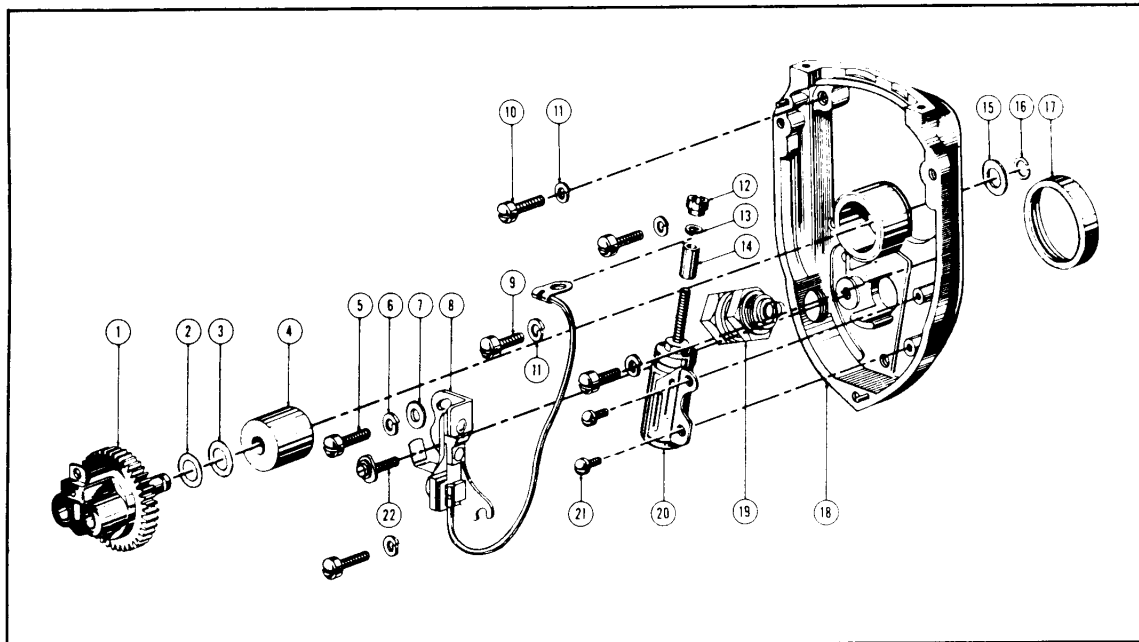
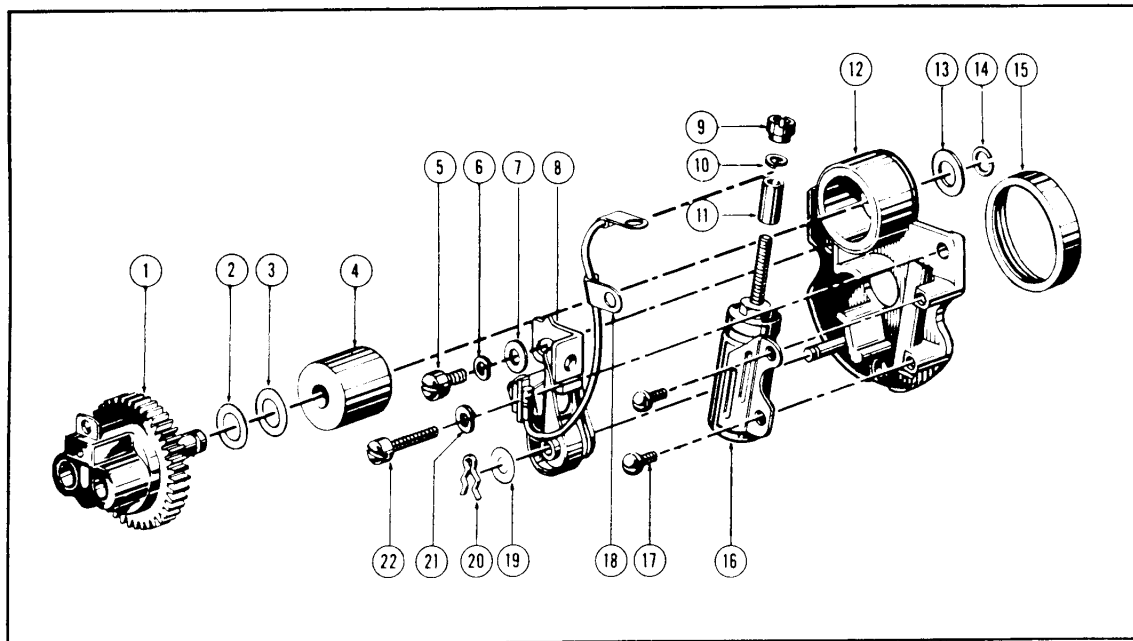
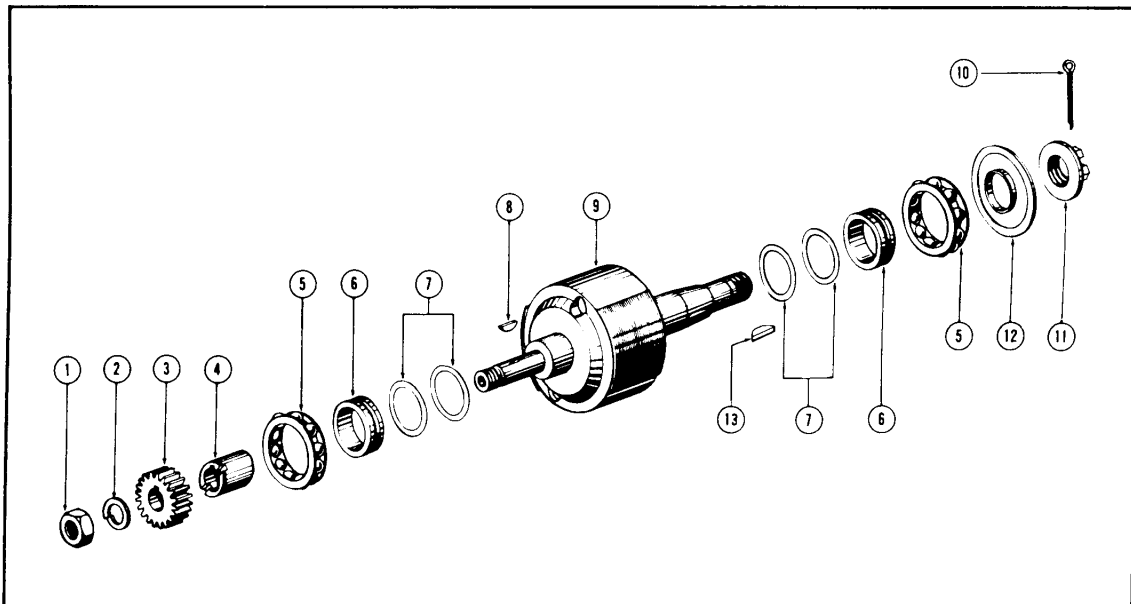

Figure 14. End Plate Assembly, LA Magnetos
Figure 15. End Plate Assembly, AM Magnetos
Figure 17. Rotor Shaft Assembly
Remove the cotter pin (10), and drive nut (11). (See figure 17). Remove the impulse starter from the drive end of the magneto by using puller tool No. H19-946. While performing this operation, exercise caution to avoid allowing the starter spring to jump free.
(See figure 17). Remove the nut (1), lockwasher (2) and pinion gear from the breaker end of the rotor shaft. (See figure 14). Remove the condenser post nut (12) from the condenser terminal post and remove
(See figure 17). Remove the nut (1), lockwasher (2) and pinion gear (3) from the breaker end of the rotor shaft.
(See figure 15). Remove the condenser post nut (9) from the condenser terminal and remove the high tension coil lead from the condenser (16).
Remove the snap ring (figure 14, ref. 16 and figure 15, ref. 14) from the groove in the distributor gear and rotor shaft by means of a suitable snap ring tool.
Remove the spacer or shim washer (figure 14, ref. 15 and figure 15, ref. 13) and withdraw the shaft from the oilite bearing (ref. 4, figures 14 and 15).
Remove the spacer or shim washers (refs. 2 and 3, figures 14 and 15) from the inner end of the shaft.
(See figure 17). Remove breaker cam (4) and woodruff key (8) from the breaker end of the magneto rotor shaft.